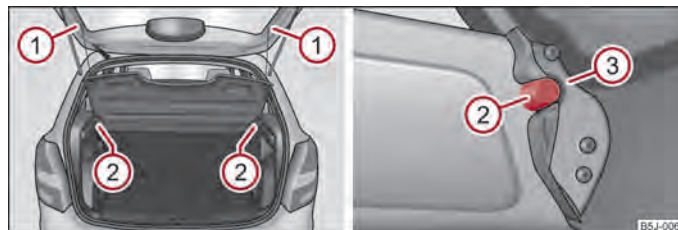

Fig. 47 Remove/install the luggage compartment cover ▶
- Unhook the support straps ① ⇒ fig. 47.
- Remove the luggage compartment cover from the holders ② by knocking lightly on the bottom side of the cover in the area between the holders.
- To re-install, place the cover on the contact surfaces of the side trim panel and position the mounts on the cover ③ above the holders ② at the side trim panel.
- Attach the support straps ① on the boot lid.